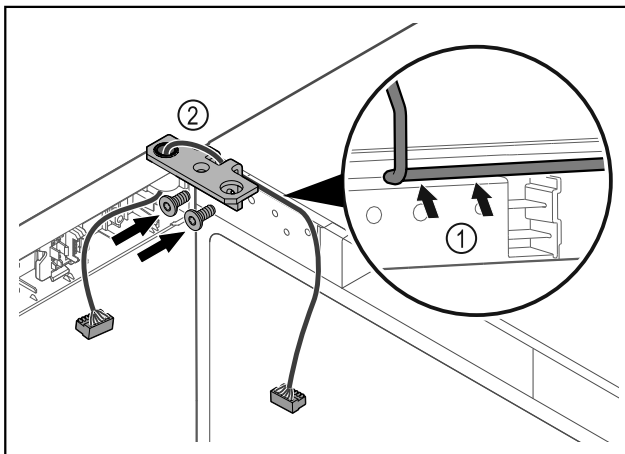

Fig. 63
- ▶ Feed the cable through the recess in the hinge and lay it carefully Fig. 63 (1).
- ▶ Screw on the hinge Fig. 63 (2).